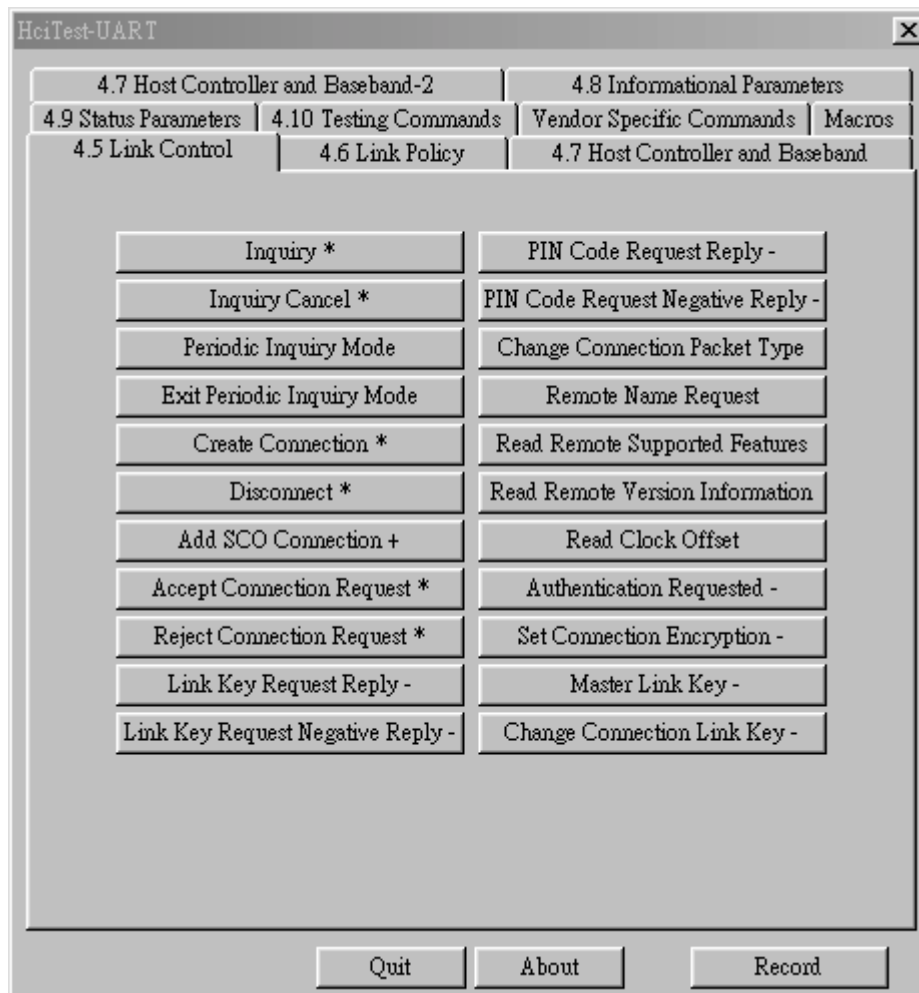
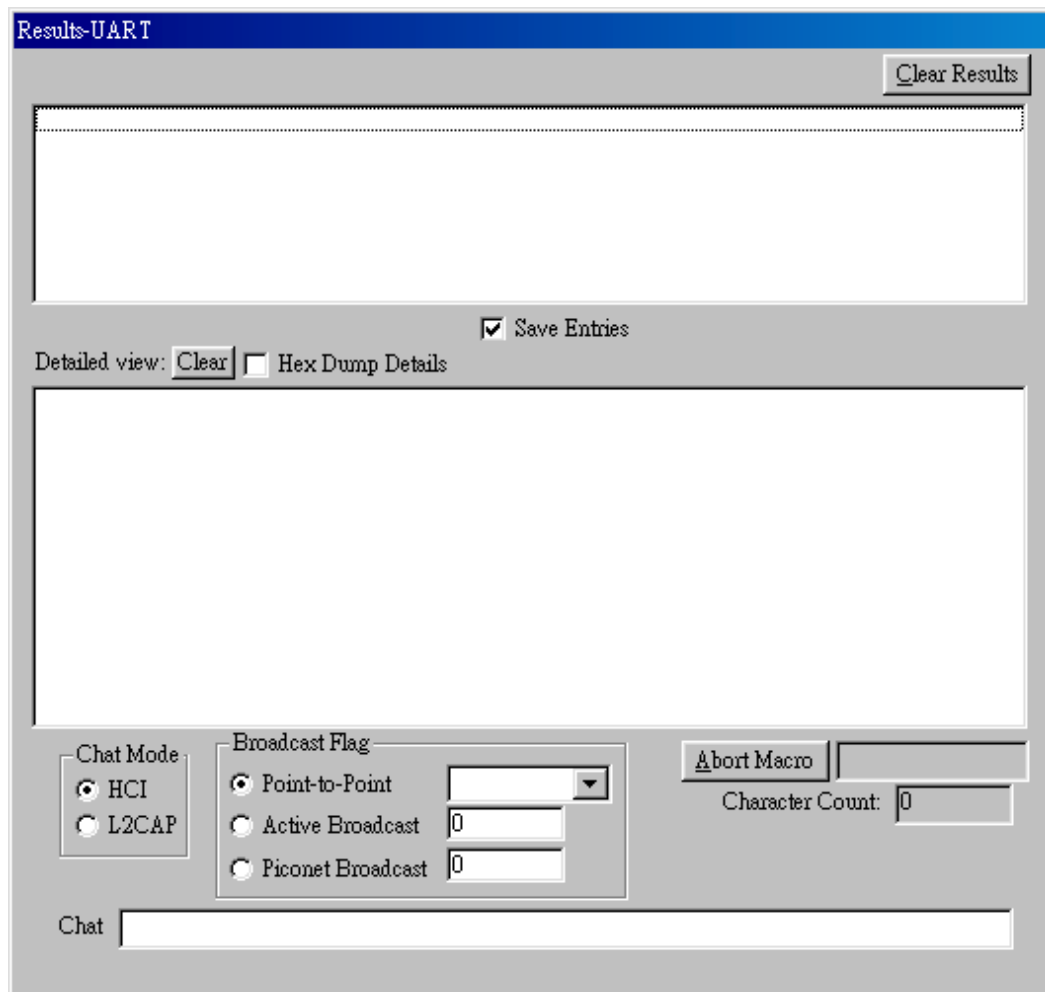

Figure 8: Configure HCI Test Program
Figure 9: Result of Execution of HCI Test Program
- Two windows will be displayed, “**HCI Test**” is for configuration (as Figure 8) and the “**Results**” is for test result (as Figure 9).